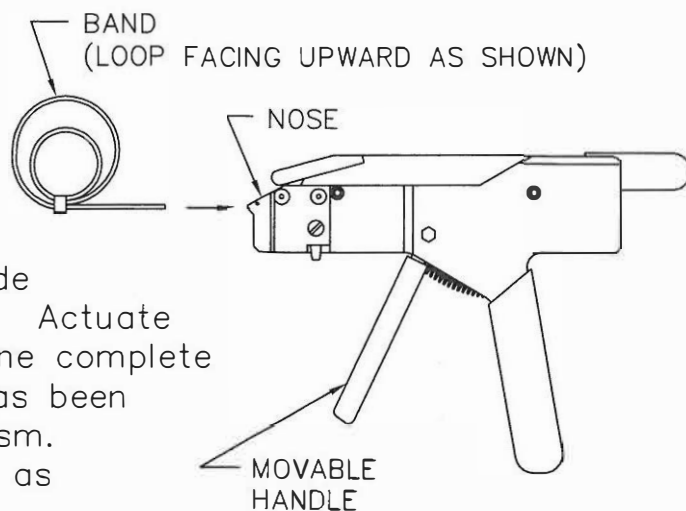

FIGURE 1
- 1.1 Insert the mechanical band into the DBS-1100 Banding Tool at least 1.75 inches, the band loop shall be oriented on the upper side of the tool's nose (see Figure 1). Actuate the movable handle of the tool one complete stroke to insure that the band has been captured by the gripping mechanism. The band must be double-looped as shown in Figure 6.